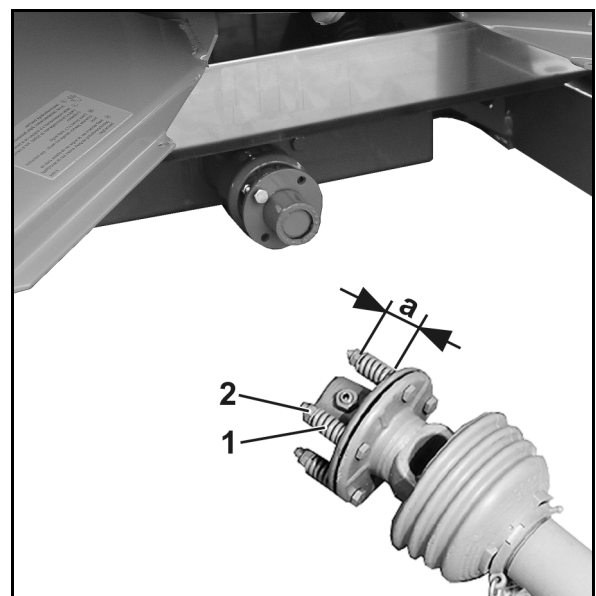

Fig. 91
2. Relieve the springs (Fig. 91/1) by unscrewing the nuts (Fig. 91/2).